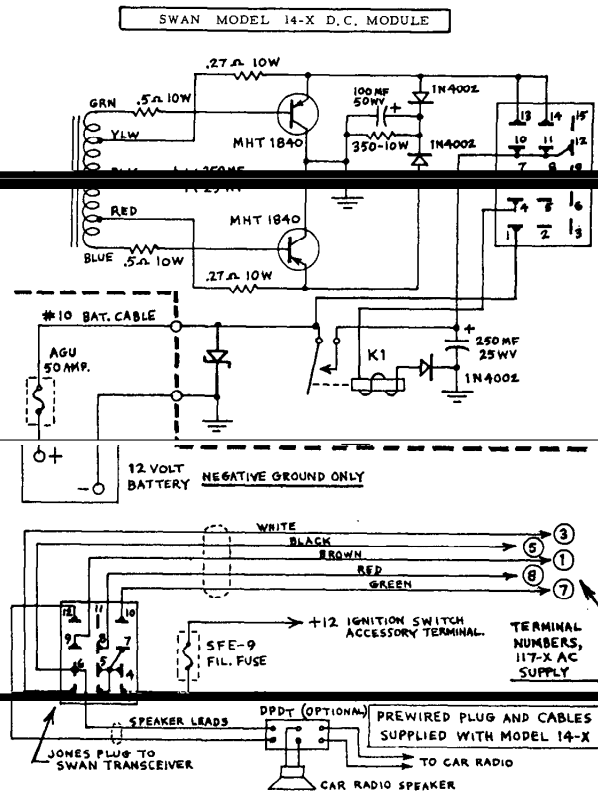

FIG. 8 MODEL 14-X D.C. MODULE
- (A) Connect the primary leads from the power the ceramic fuse block with 30 amp. fuse in series with the positive lead. (With positive ground systems, the fuse goes in the negative lead). If possible, drill and tap a hole in the battery post itself for a contact stud. The more intimately the supply is connected to the battery, the less chance there is for voltage transients to reach it. Solder lugs are provided for the ends of the various leads.
- (B) The filament line comes prewired to the Jones plug, and has an in-line 9 amp. fuse. Connect this line to the ignition switch accessory terminal, as recommended in the schematic, Fig. 8. In most cars the 12 volts at this terminal is switched off while twisting the ignition key to start the engine. Thus, the relay in the power supply will also be turned off, and the transistors will not be subjected to the sharp transients put out by the starter motor. **NOTE:** The car radio is normally connected to the accessory terminal for the same reason. It may be more convenient to locate the 12 volt line going to the car radio, and splice into it with the transceiver filament line. Look for